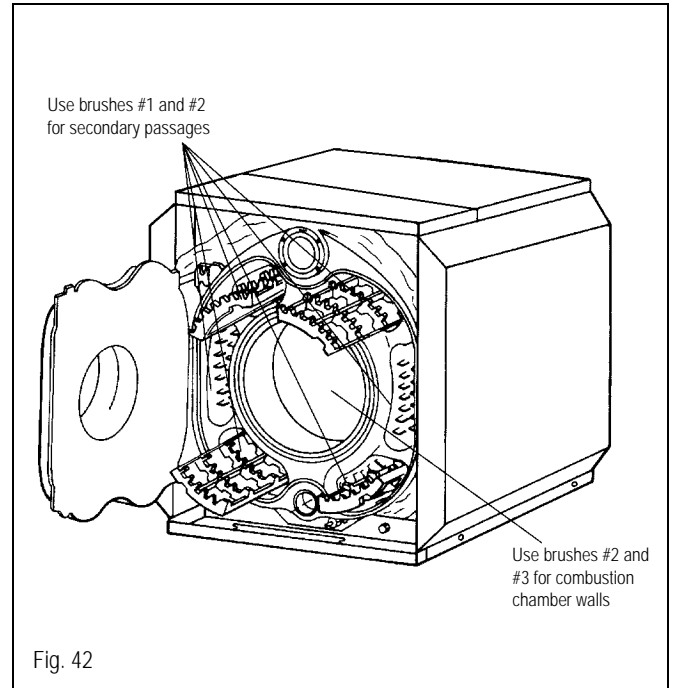

Fig. 42
- Brush the lower flue passages from the front and rear with brush #2 (Fig. 42).